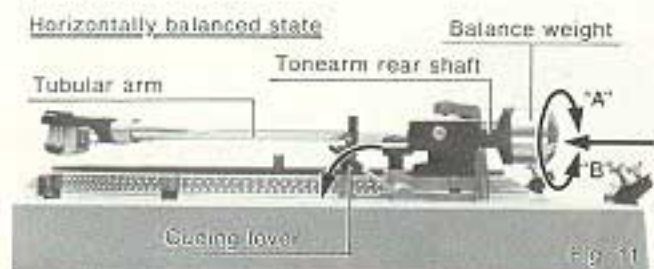

Fig. 11
1. Insert the balance weight onto the rear shaft of the tonearm. (See Fig. 11)
4. Turn the entire balance weight clockwise (indicated by the arrow "A") or counterclockwise (indicated by the arrow "B") until the tonearm is approximately balanced horizontally. (See Fig. 11)
- 3) Ensure that the cueing lever is in the lowered position as shown in Fig. 11.